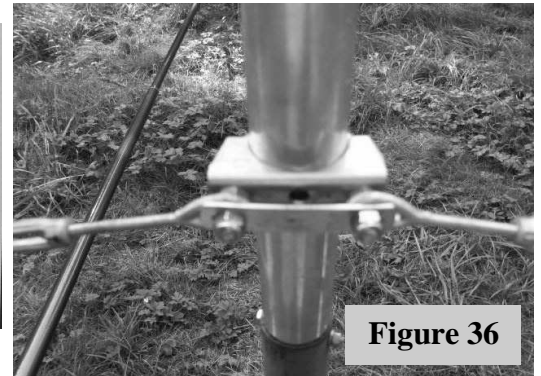

Figure 36
- Locate the 2” U-bolt, saddle, two 5/16” nuts, 2” flat plate and two 5/16” nylock nuts. Position the U-bolt 26” to 30” above the boom on the antenna mast and secure with the two 5/16” stainless nuts (do not use the nylock nuts yet). Position the eye of the turnbuckles on each leg of the U-Bolt, place the 2” flat plate behind them, and fasten the 5/16” nylock nuts securely as shown in **Figure 36**. When properly secured, cut the remaining Phillystran cable for use on the other half of the truss.